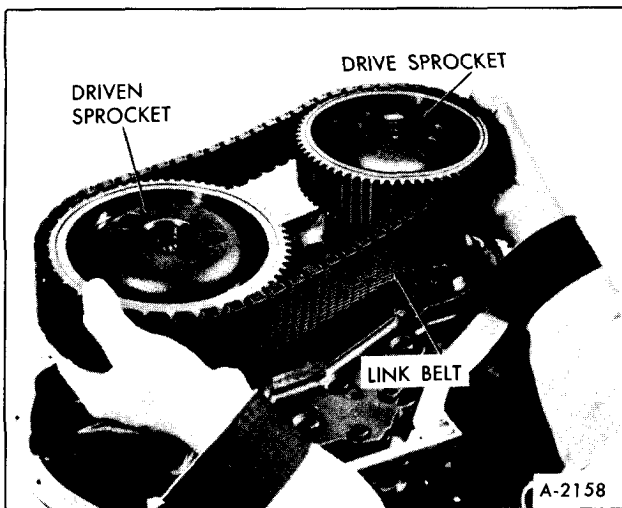

Figure 41—Removing Sprocket & Link Assembly
4. Remove drive and driven sprockets, link assembly, bearings, and shafts simultaneously by alternately pulling upwards on the drive and driven sprockets until the bearings are out of the drive and driven support housings, Figure 41.